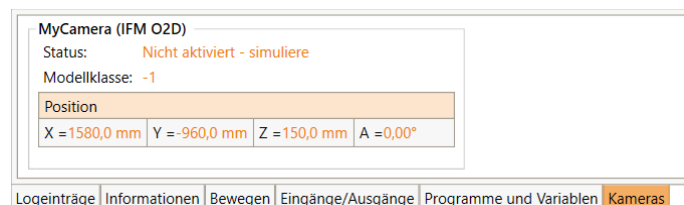

Figure 58: Camera status area
- CRI interface: The image is transmitted via the Ethernet interface to iRC and can be observed there in the camera status area (see fig. 58).